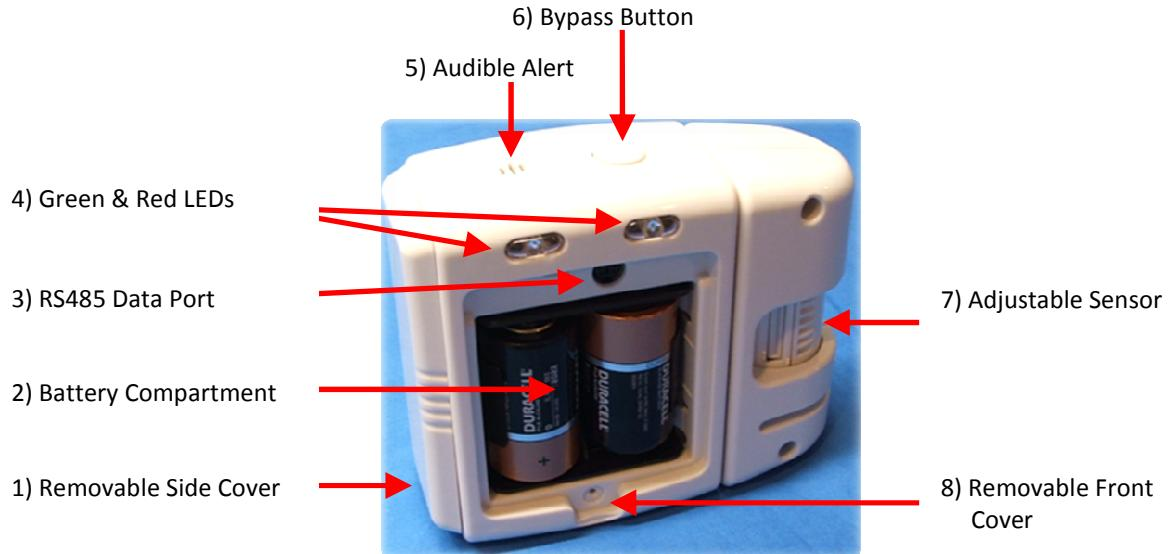
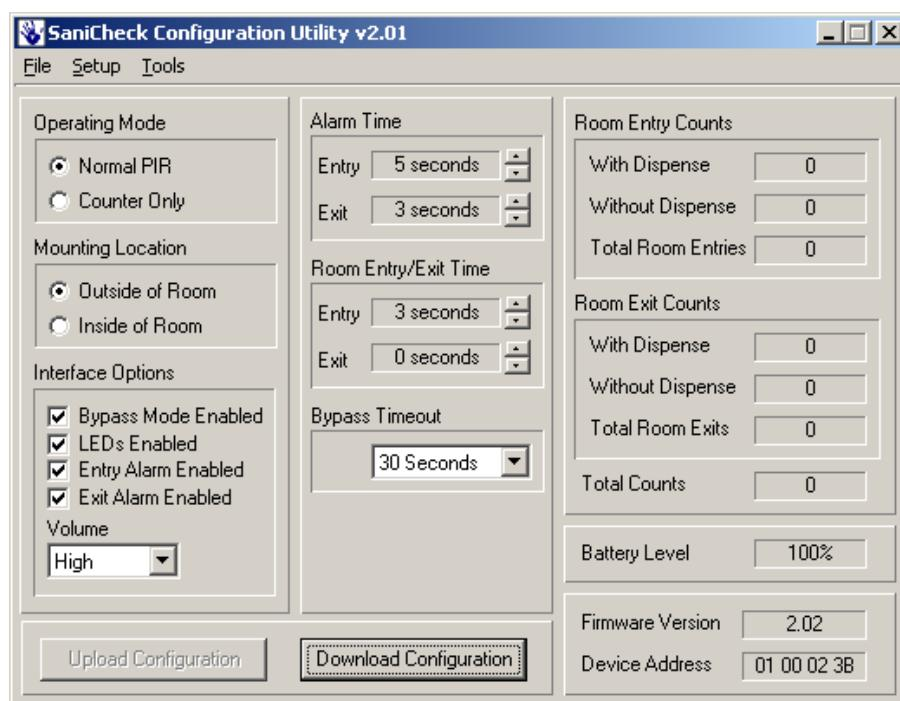

Figure 1. PSS Door Monitor Front View
Figure 4. Configuration Settings Screen
### 1.1 Component Descriptions - Front View (See Figure 1)
This allows the user to change the PSS Door Monitor configuration from right side to left side room entry (See Figure 1 item 1).
Remove front cover to allow access to the battery compartment. Insert 2 quality D cell alkaline batteries. Note the battery polarity is shown in the battery box (See Figure 1 item 2).
The RS485 Communications Port din connector is used to connect the PSS Door Monitor to a Host computer. The Communications port is used to configure the PSS Door Monitor, Upload and Download data (See Figure 1 item 3).
The green and red LEDs provide visual feedback to the healthcare worker (See Figure.1 item 4).
The audible alert makes a beeping sound that is used to give feedback to the healthcare worker (See Figure.1 item 5).
The bypass mode must be enabled in the PSS Door Monitor configuration software, see section 3.0 PSS Door Monitor Configuration (Figure 4) for this function to work. The override button is used to stop the PSS Door Monitor from sensing for a programmed time period (See Figure 1 item 6). The override mode can be used by housekeeping staff to prevent multiple non-compliance events while performing routine room maintenance.
Momentarily depress the override button once for a 30-second default countdown. The override button grace period can be changed from the PSS Door Monitor configuration software (See Figure 4).
The Sensor can be adjusted to select the correct PIR angle. The sensor adjustment is done at the time of installation to optimize door entry and exit sensing (See Figure 1 item 7).
Removable front cover and screw assembly (See Figure. 1 item 8).
#### 3.1 PSS Door Monitor Configuration Software Menu (See Figure.4)
This will upload all of the configuration selections to the PSS Door Monitor unit. Menu selections that are available for reconfiguration are Interface Options, Mounting Location, Alarm Time, Room Entry/Exit Time and Bypass Timeout (See Figure 4).